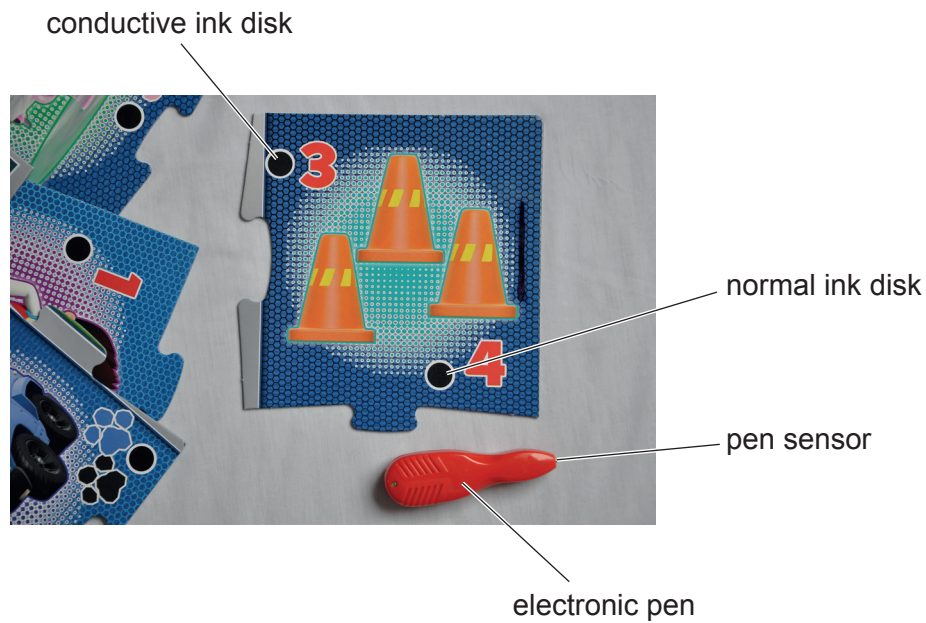

Fig. 4.1
- 4 **Fig. 4.1** shows parts of a puzzle toy. The puzzle helps children learn to count and identify numbers.